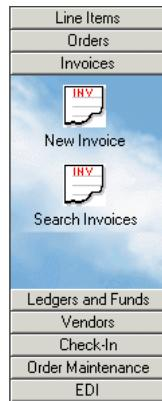

Figure 12-1. Invoice Buttons
- a. **New Invoice** button (Figure 12-1) to access the **New Invoice** dialog box.
- b. **Search Invoices** button (Figure 12-1) to access The **Search Invoices** work space.